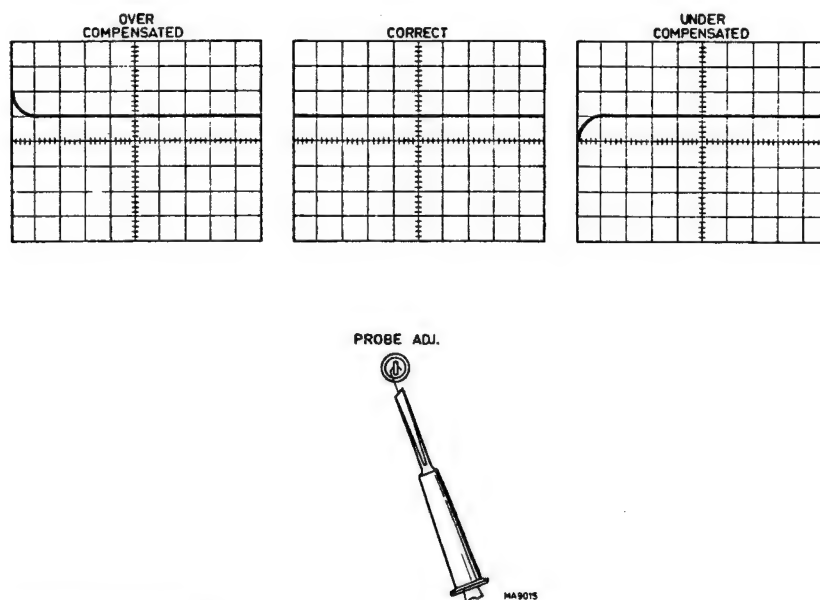

Fig. 2.4. Probe compensation
- Insert a small screwdriver through the hole in the compensation box and adjust the trimmer to obtain a correct display as shown in Fig. 2.4.